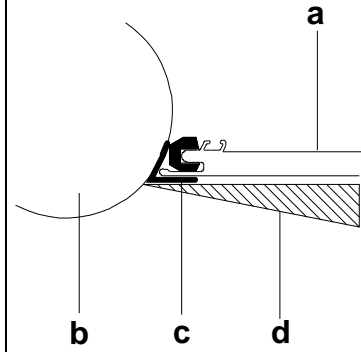

fig 2
7. **Flatten** the apex by standing on it (in the boat) and pulling the lifelines to prevent the fabric from being pinched [fig. 2].